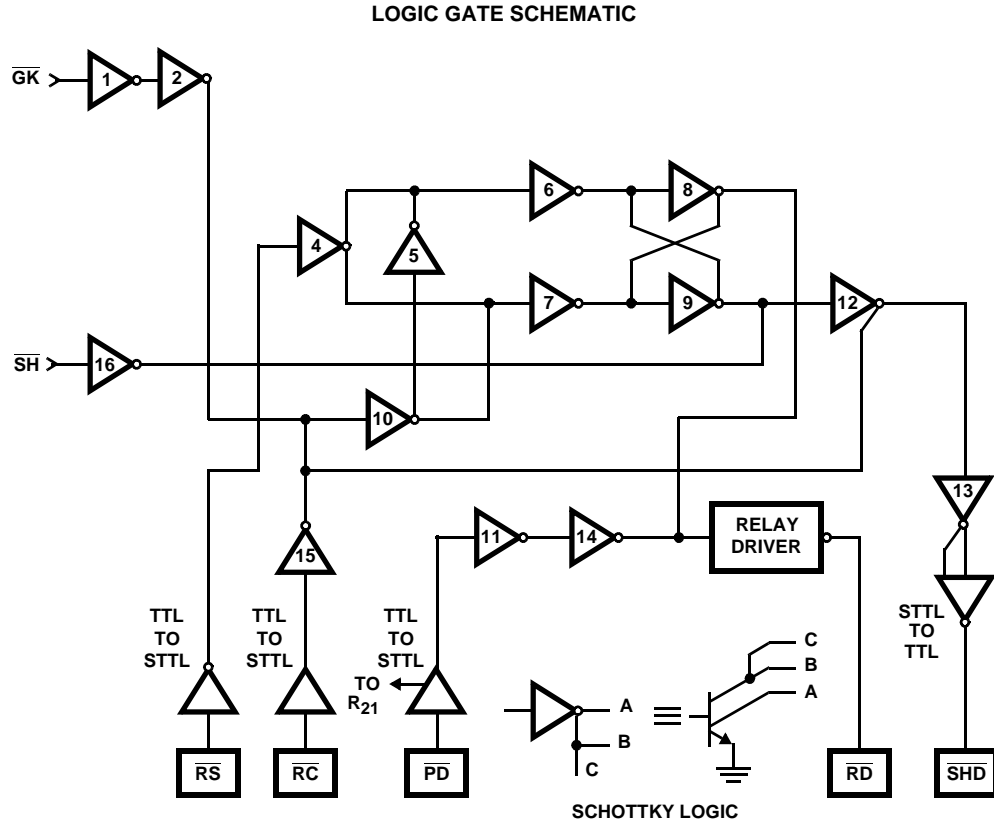

FIGURE 9. LOGIC NETWORK
Figure 9 is a schematic of the combination logic within the network. The external inputs \overline{RC} (Relay Control) and \overline{PD} (Power Denial) allow the switch controller to ring the line or deny power to the loop, respectively. The Ring Synchronization input (RS) facilitates switching of the ring relay near a ring current zero crossing in order to minimize inductive kickback from the telephone ringer.